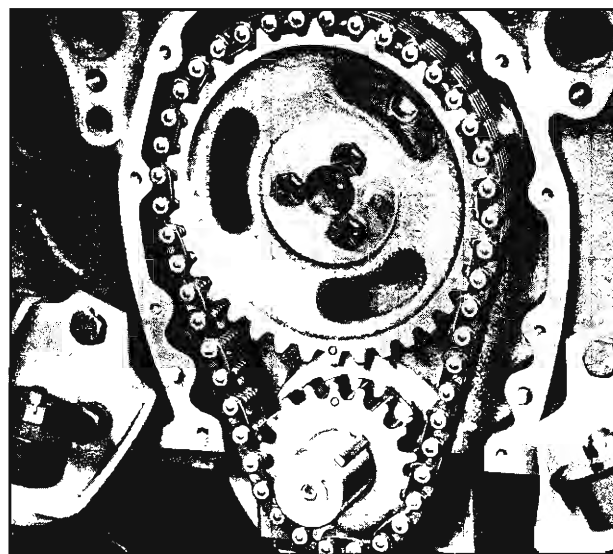

Fig. 78—Timing Sprocket "0" Marks
2. Crank engine until "0" marks on camshaft and crankshaft sprockets are in alignment (fig. 78).